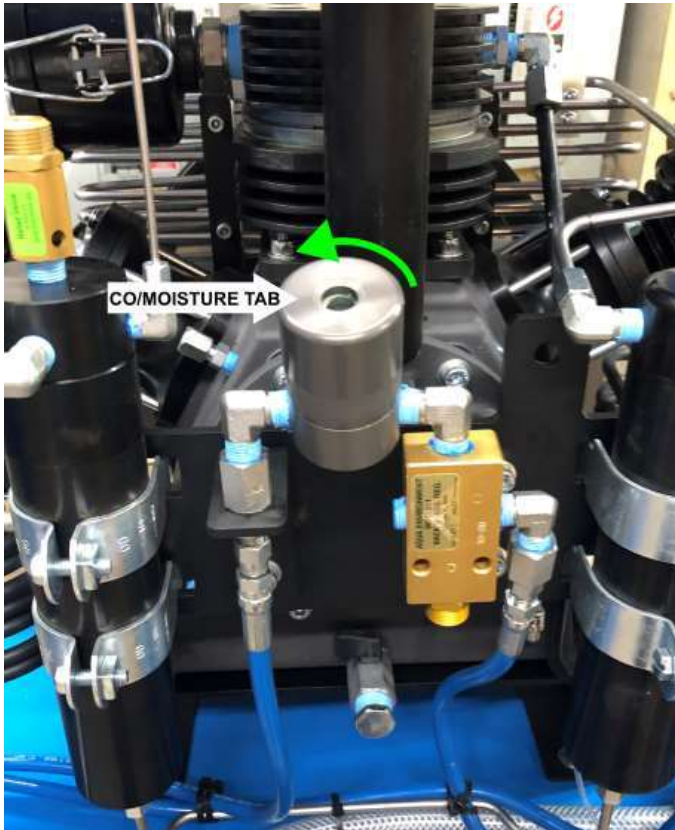

Figure 6.11: CO/Moisture Tab Sight Glass.
1. Unscrew the top portion of the sight glass enclosure to access the tabs. (Figure 6.11)